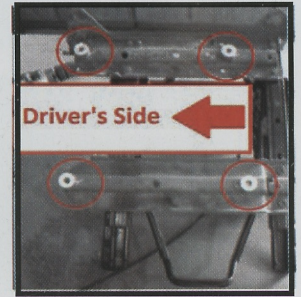

Fig.12
(02 06 TJ/LJ) Use (4) spacer, (4) nut plates, (4) M13 bolts, and (4) M13 flat washers to mount seats to factory riser (Fig. 12). Use supplied image of seat base to confirm spacers have been placed in the correct left, right orientation. Do not tighten bolts until seat has been secured to factory seat riser. This will allow adjustment during installation. Spacers, nut plates, and M13 bolts will need to be installed one at a time until seat is attached to factory riser.